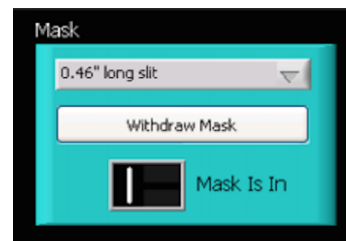

Figure 1: Goodman Slit Mask selection window
- Make sure the slit is IN (Fig.1) and move the camera arm to the IN position (Fig.3 right and 4).
- Right click on anywhere on the display window to bring up the pop-up menu. Select the “Show Cross-Hair” option (Fig. 5). Now unselect the “Lock Cross-Hair” option and left click with the mouse in the exact position you want your object to fall on the slit. The crosshair will show up on that position (Fig. 5, right). The crosshair coordinates are shown in the upper left corner of the GACAM display window (Fig. 6, left), first in GACAM pixels (0.165 arcsec/pixel), and in Goodman (GHTS) pixels (0.15 arcsec/pixel). If you are happy with that position, right click again and select the “Lock Cross-Hair” option in the pop-up menu. *The crosshair will now stay at your selected location and will define the slit position.* You can verify this by moving the slit mask out of the beam (you could now take a moment to look at your target field and check that it is correct, see IV below), and then back in, using the Slit Mask control box in the Goodman GUI (Fig.1). Sometimes the slit will not position exactly in the same place the first time it comes back in. Adjust the crosshair position (unlock/lock) and repeat the slit in/out movement if necessary. Moving the slit mask in or out takes ~15s.
- Now that you have the slit position defined with the crosshair, bring up the pop-up menu in GACAM and unselect the “Lock Slit-box” option (Fig. 6, left). Move the slit mask out of the beam in the Goodman Slit Mask control box (Fig. 1). You will now see your target field as shown in Figure 6, center. Remember that the GACAM FOV is 1.8×1.4 arcmin. For a position angle (PA) = 0 deg, the orientation is North up and East to the left, other orientations are as shown here: